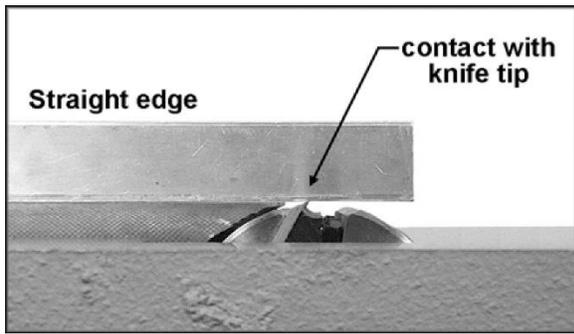

Figure 13
Refer to Figures 13 - 17:
7. Use the *outfeed table adjustment handle* (B, Fig. 7) to lower the *outfeed table* (A) until the *straightedge* (B) contacts the *knife* (E), as shown in Figure 13. Rock the *cutterhead* (D) slightly to make sure the apex of the knife is contacting the *straightedge* (B).